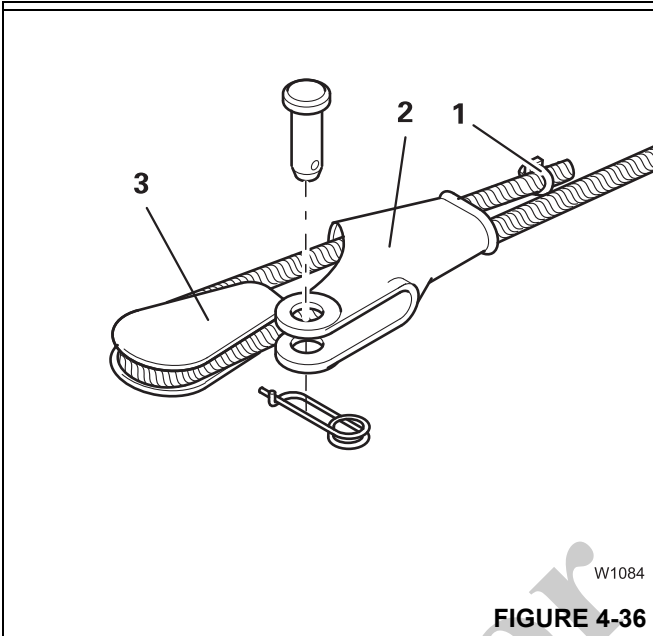

FIGURE 4-36
- Check the securing of the rope end in the rope end clamp (2, Figure 4-36) for proper seating and correct positioning of rope.